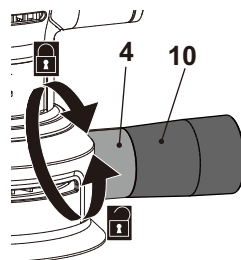
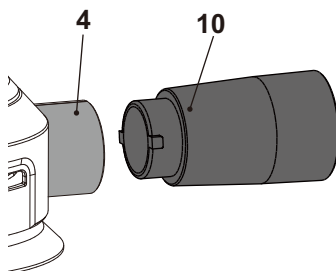

Fig. 6
Fig. 7
2. To remove the dust extraction adaptor, rotate the dust collection adaptor (10) counterclockwise Fig. 6 and pull the dust extraction adaptor off. Fig. 7